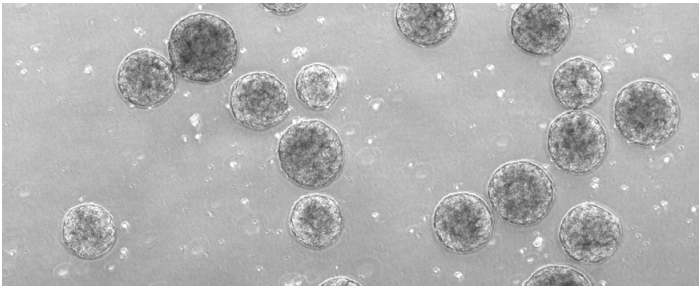

Figure 2. PSC spheroids at day 0.
- FP specification, day 0: The size of the PSC spheroids at day 0 is a critical parameter for optimal specification efficiency. The average spheroid diameter to start FP specification should be ~210–260 μm (Figure 2). When spheroids are at an appropriate size, perform an 80% medium change with FP Specification Medium. Repeat the 80% medium change with FP Specification Medium. Return the plate to the orbital shaker platform at 70 rpm in the 37°C incubator. Incubate the cells for 48 hours.